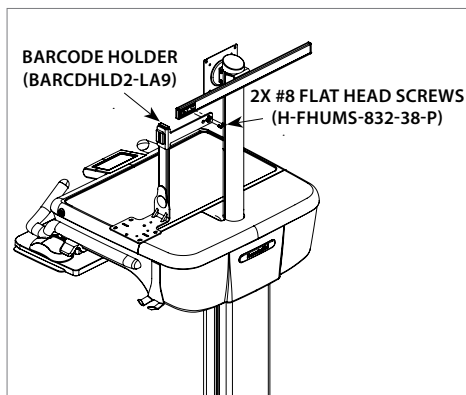
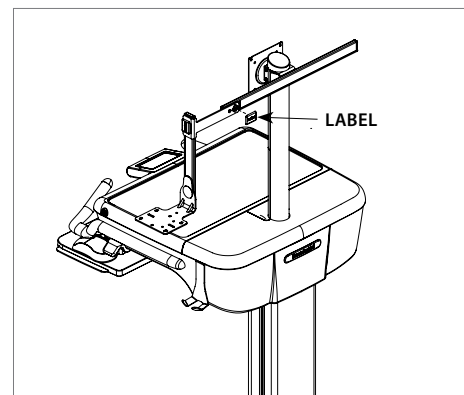

Figure 17
Figure 18
7. Install the **WIRELESS BARCODE SCANNER DOCK HOLDER (HMA-BARCDHLD2-LA9)** on **DOVETAIL (X-LRS-DR-15)** with 2x **#8 FLAT HEAD SCREWS (H-FHUMS-832-38-P)** from the **END CAP HARDWARE KIT (HMA-PR-ADJ-KIT)** using #3 Philip's Head screwdriver (**Figure 17**), and put the Amico rectangle label on (**Figure 18**).